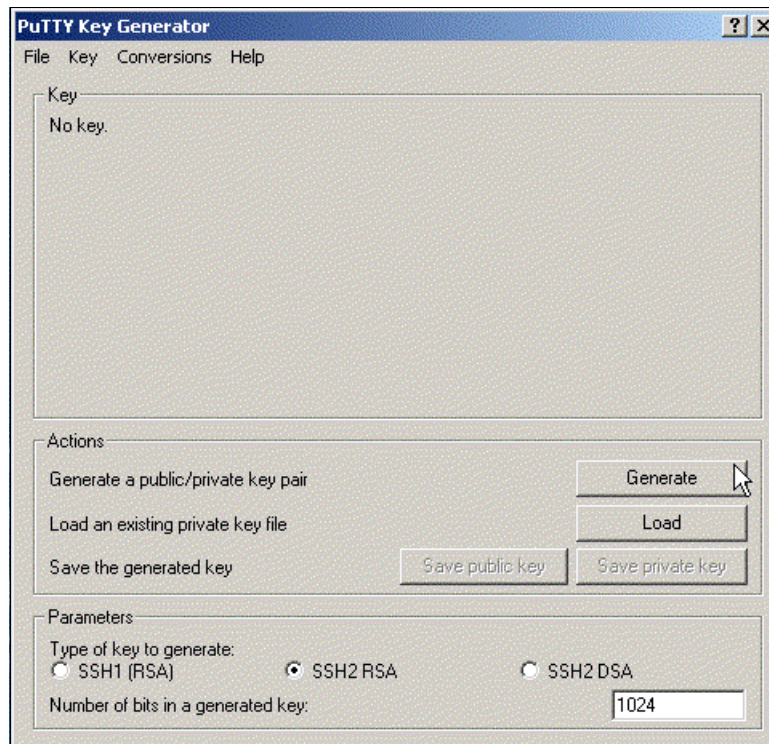

Figure 4-1 PuTTY key generator GUI
2. On the PuTTY Key Generator GUI window (Figure 4-1), generate the keys: